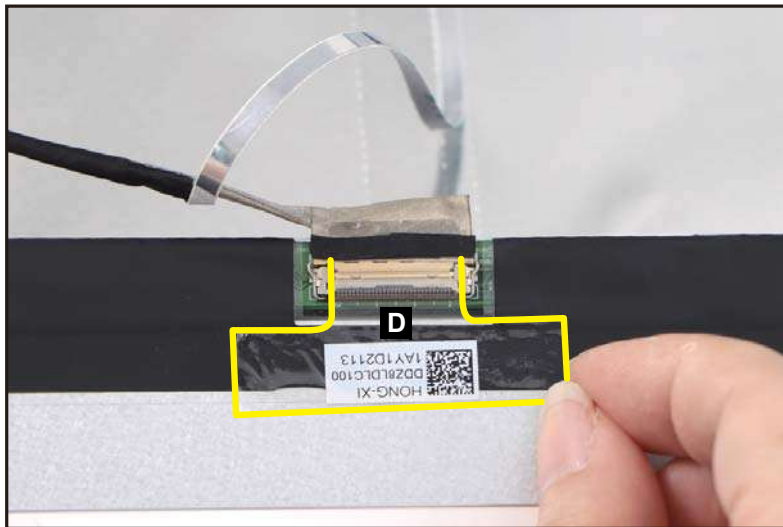

Figure 3-80. Replacing the LCD Panel
4. Adhere the mylar tape (D) to secure the LCD cable to the LCD panel (Figure 3-80).